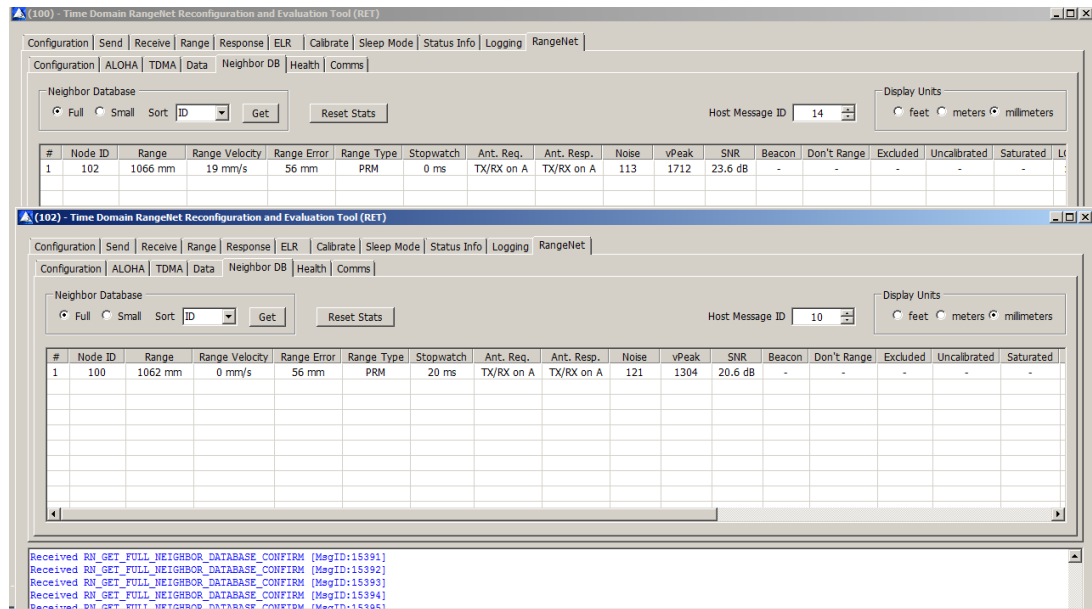

Fig. 15: Example ALOHA Network with two members
- Click unit # 102's Neighbor DB Tab. It will show that it is ranging to unit # 100. At this point you should be seeing something that looks similar to **Figure 15**.